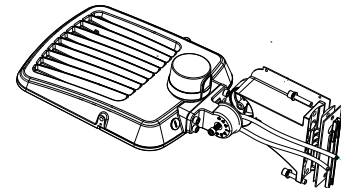

Figure 5
3.DIRECT MOUNTING (DM)
Step 1: Remove the bracket mounting screws on the fixture, open the side lid of bracket and run the wires through the bracket. (Figure 5)